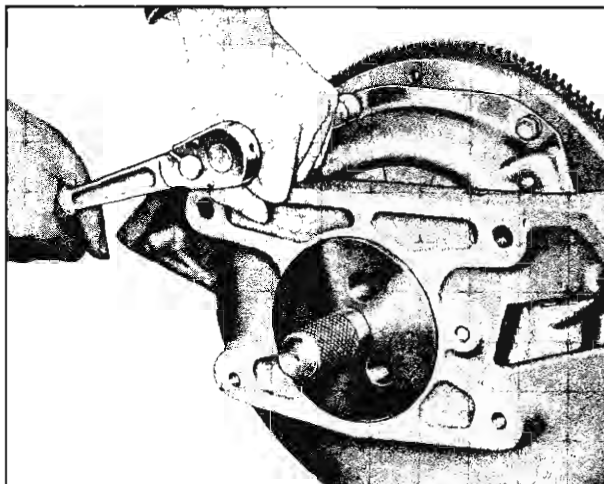

Fig. 157—Removing Clutch
- c. Install Tool J-5824 to support clutch during disassembly. Loosen clutch to flywheel bolts a turn at a time (to prevent distortion of clutch cover) until the diaphragm spring pressure is released (fig. 157). Remove all bolts, pilot tool, cover assembly and disc.